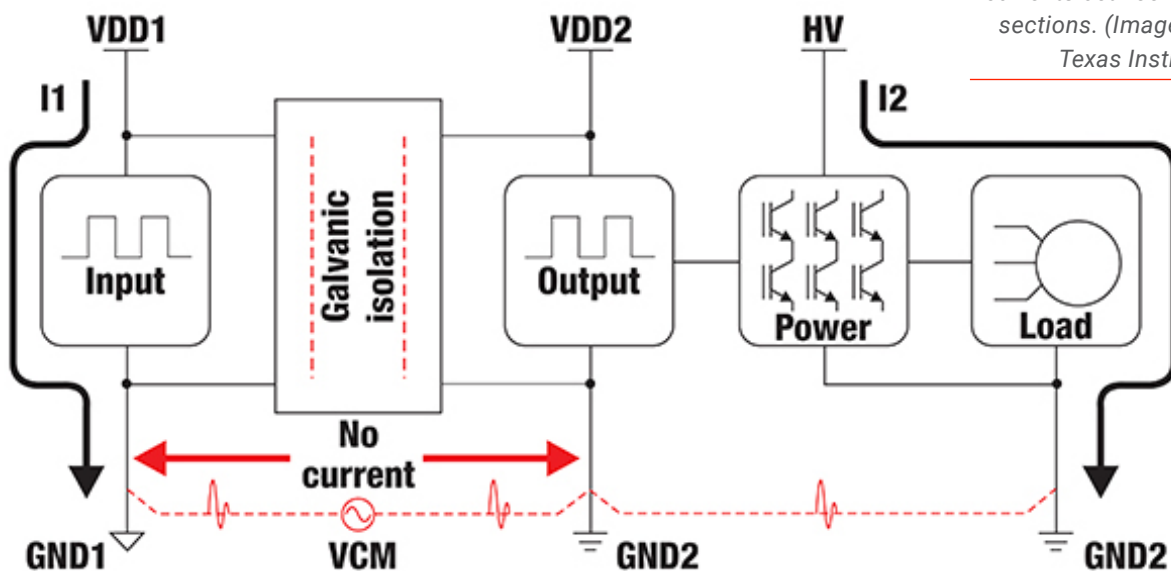

Figure 1: Galvanic isolation allows data and/or power flow, but no ground currents between isolated sections. (Image source: Texas Instruments)
*Figure 1: This **PULS** CP-Series single-phase power supply mounts to DIN rail so common in industrial automation. Features include high immunity to transients and power surges as well as low electromagnetic emission, a DC-OK relay contact, 20% output power reserves (covered later in this article), and minimal inrush current surge. The specially coated power supply also executes active power factor correction or PFC functions. (Image source: EE World)*
Galvanic isolation prevents current flow between functional sections of electronic or electrical systems, but supports the transmission of analog and digital signals and power between the sections (Figure 1). Galvanic isolation is useful for:
eFuse requirements for a given application are strongly related to the operating voltage and current of the system. For low voltage and low current systems up to about 5 volts direct current ( $V_{DC}$ ) input and 2 amperes (A) of current, features such as OCP, OTP, UVLO, and inrush current suppression ( $dV/dt$ ) for hot-swap and hot-plug events are commonly required. For applications that consume between 2 and 6 A, with input voltages up to 24  $V_{DC}$ , OVP, current limiting/OCP, and "power good" signals are often needed. Current timers and monitors for system monitoring and OCP and RCB, are common in applications using 6 A and higher and voltages of 24  $V_{DC}$  and higher (Figure 1).
Figure 1: eFuse feature sets are strongly correlated with the input voltage (horizontal axis) and input current (vertical axis) of the application. (Image source: Littelfuse)